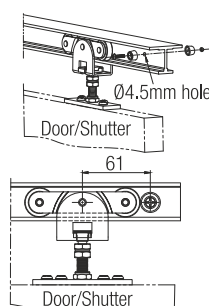

Fig. 6
7. Drill Ø4.5mm hole on the track & fit the Rubber Buffer to the track using M4 screw & nut provided as shown in Fig.6.